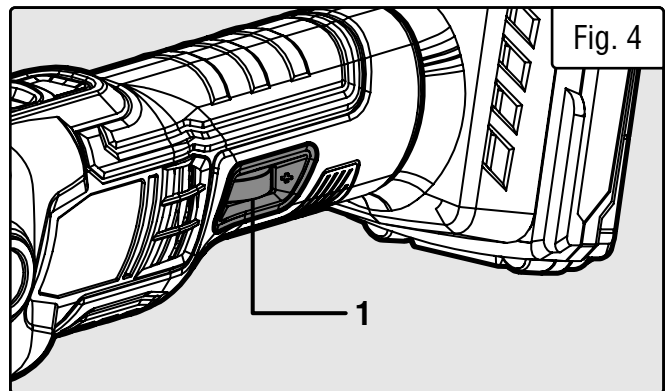

Fig. 4
1. To increase the speed, rotate the variable speed dial (Fig. 4 - 1) to the right. Setting 6 indicates maximum speed.